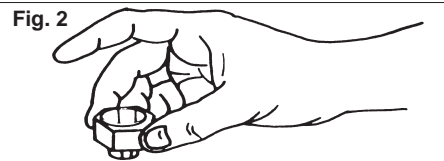

Fig. 2
2. Position nut squarely over collet (Fig. 2).